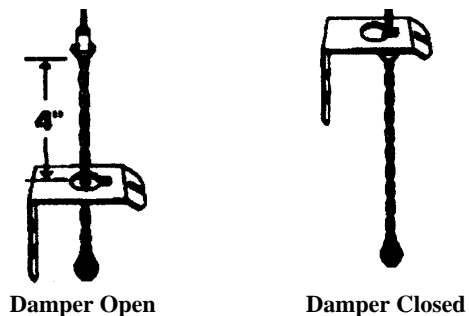

Figure 7. Adjust Damper Cable
D. Insert the pull cable through the bracket and adjust the length as shown in Figure 7 in the open and closed positions.